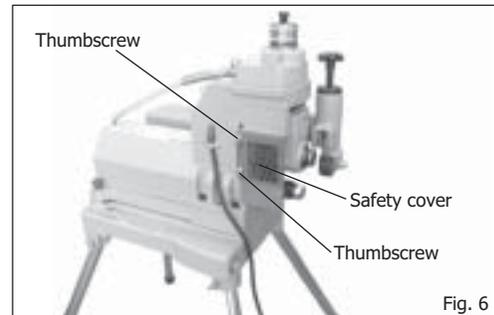

Fig. 6
1. Loosen the thumbscrews and remove the safety cover. (Fig.6)